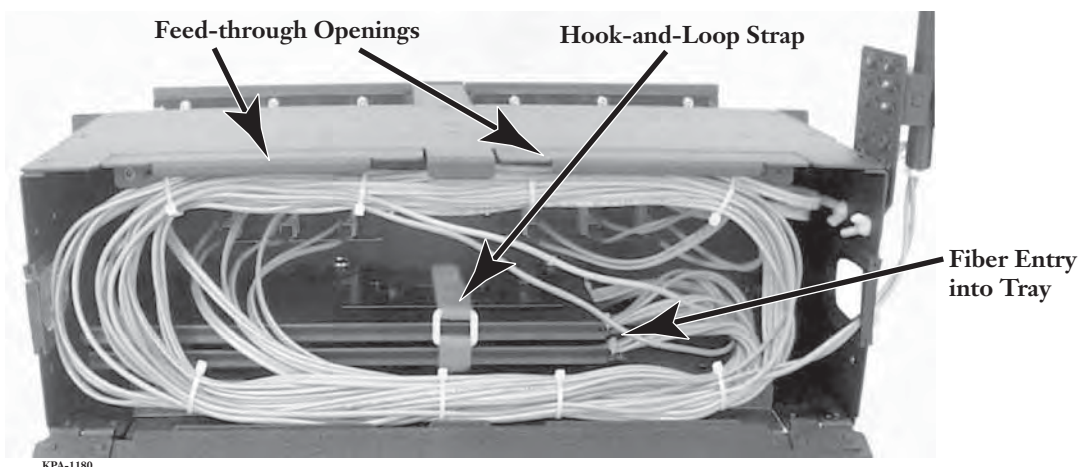

Figure 16
- Install trays into the tray stacker and secure with the hook-and-loop strap as shown in Figure 16.
NOTE: Install the splice trays with the fiber entry end of the trays on the same side as cable entry into the housing. (Figure 16 illustrates cable entry on the left side.)
- Route pigtail slack and buffer tubes/sub-unit together as shown in Figure 16.